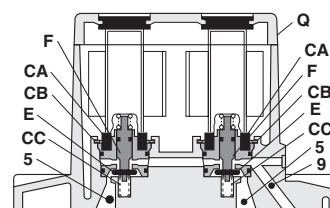

Figure 10 –
1. Remove pilot cover Q (Figure 10).